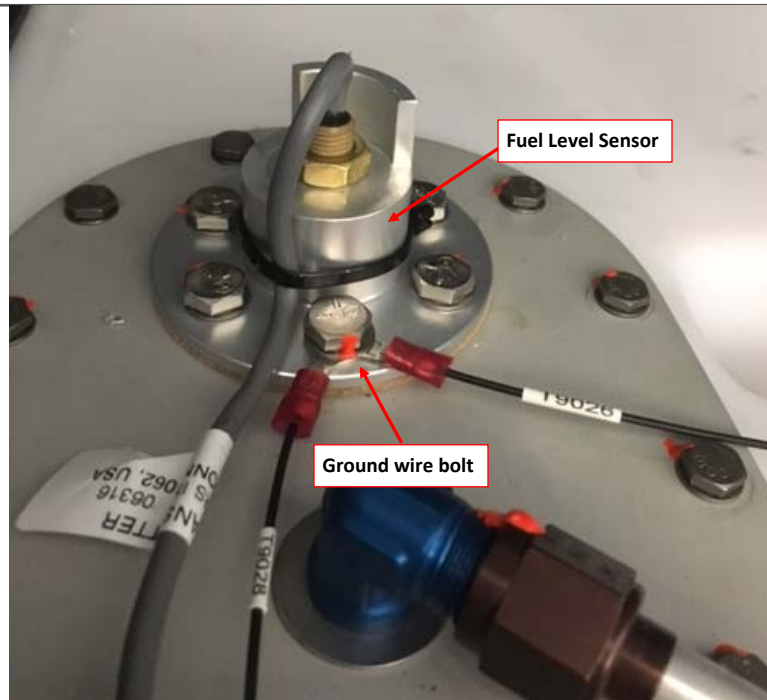

Figure 5: Ground wire bolt.
5. Remove zip ties securing the electrical harnesses on top of the tank, remove bolt securing ground wires (refer to Figure 5), and disconnect fuel level sensor.
9. Reinstall ground wires and bolt. Torque to 40-45 inch-lb. Refer to Figure 5.